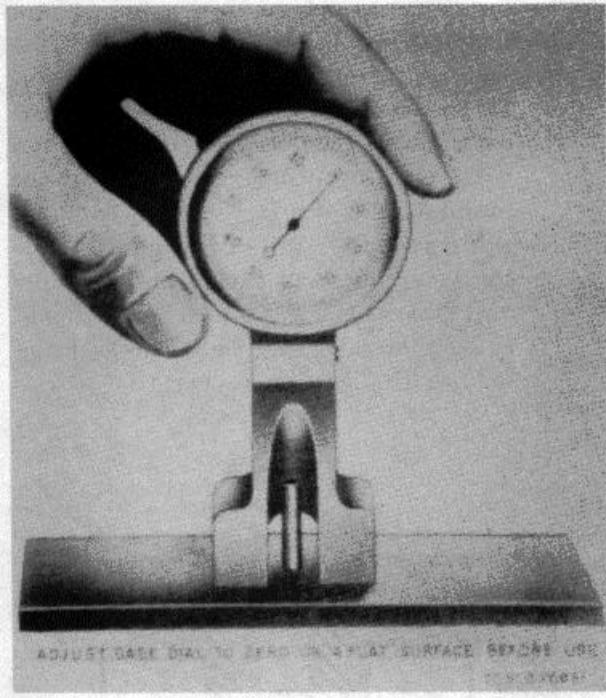

Figure 27. Micrometer dial gage for adjusting magnet valves.
- (3) In service, it is permissible to allow the pushrod to wear until the final gap is approximately 0.032 inch. Some magnet cores (used with clapper type armature) are made with bronze residual stops, 0.020 inch in height above the core face. Obviously, on cores using these pins, the final air gap setting would be 0.012 inch more than the height of the residual pins. The 0.056-inch gage will at this point fail to unseat the exhaust port to discharge air from the cylinder and the pushrod must be stretched by peening or a new rod used. No adjustment of the floating valve is possible, therefore when the maximum travel exceeds the limit of approximately 0.012 inch, a new valve must be ground in.
g. Standard Micrometer Dial Gage. A more accurate method of measuring valves is by use of a standard micrometer gage with a special fixture, as shown on figure 27. This is especially convenient where there is a large number of valves to be overhauled, as the amount of material to be removed from new valves can be determined directly rather than by the cut and try process.